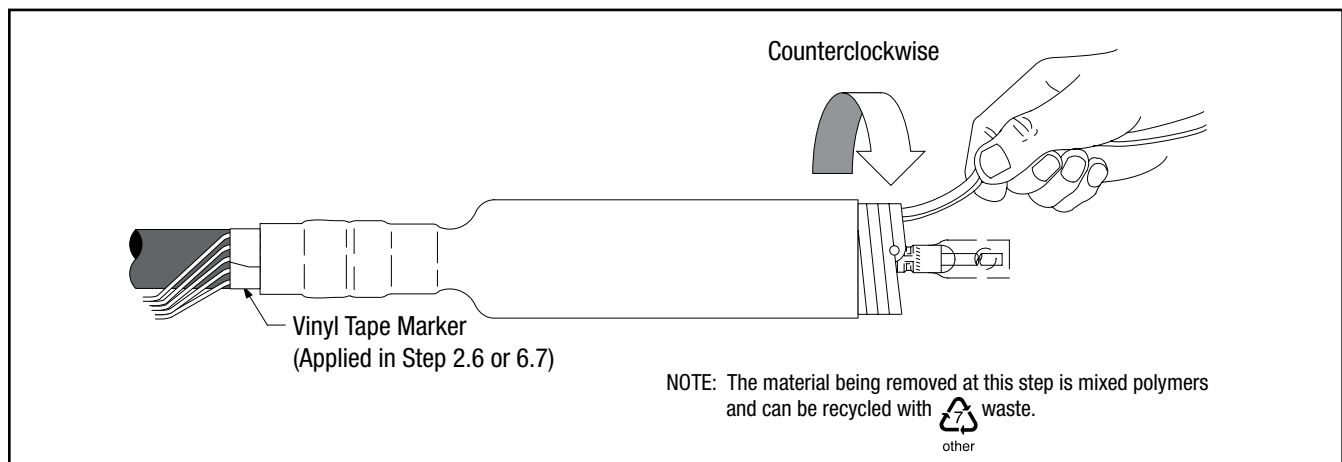

Figure 12
- 10.1 Slide the tubular termination body onto the cable and remove core. Make sure the termination body (not the core) is butted up to the edge of the vinyl tape marker previously applied (Figure 12). Pull the core while unwinding, counterclockwise, starting with the loose end (Figure 12). Be sure to alternate the pulling and unwinding actions (pull-unwind-pull-unwind-etc.) to help prevent the core material from binding up as the core is being removed.